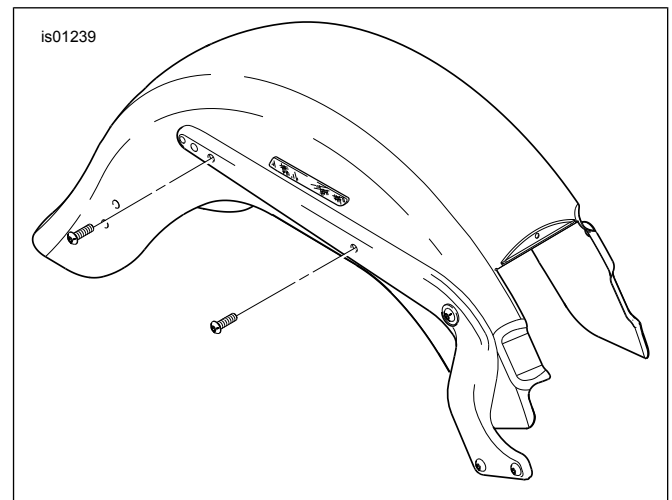
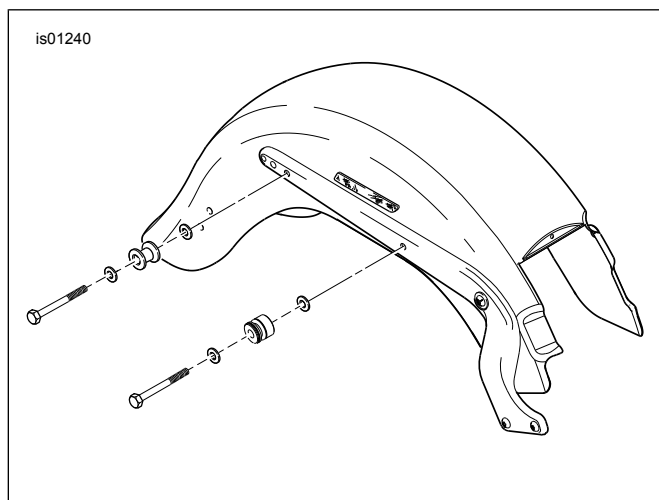

Figure 4. Remove and Discard Stock Screws
Figure 5. Remove and Retain Docking Hardware
1. See Figure 4. Remove and discard the two stock fender attaching screws as shown, on one side of the fender.
1. **If docking hardware WAS NOT previously installed:** See Figure 4. Remove and discard the two stock fender attaching screws as shown, on one side of the fender. **If docking hardware WAS previously installed:** See Figure 5. Remove and retain the fender attaching screws and docking hardware as shown, on one side of the fender. Note the position (front or rear), orientation and sequence of the docking hardware.